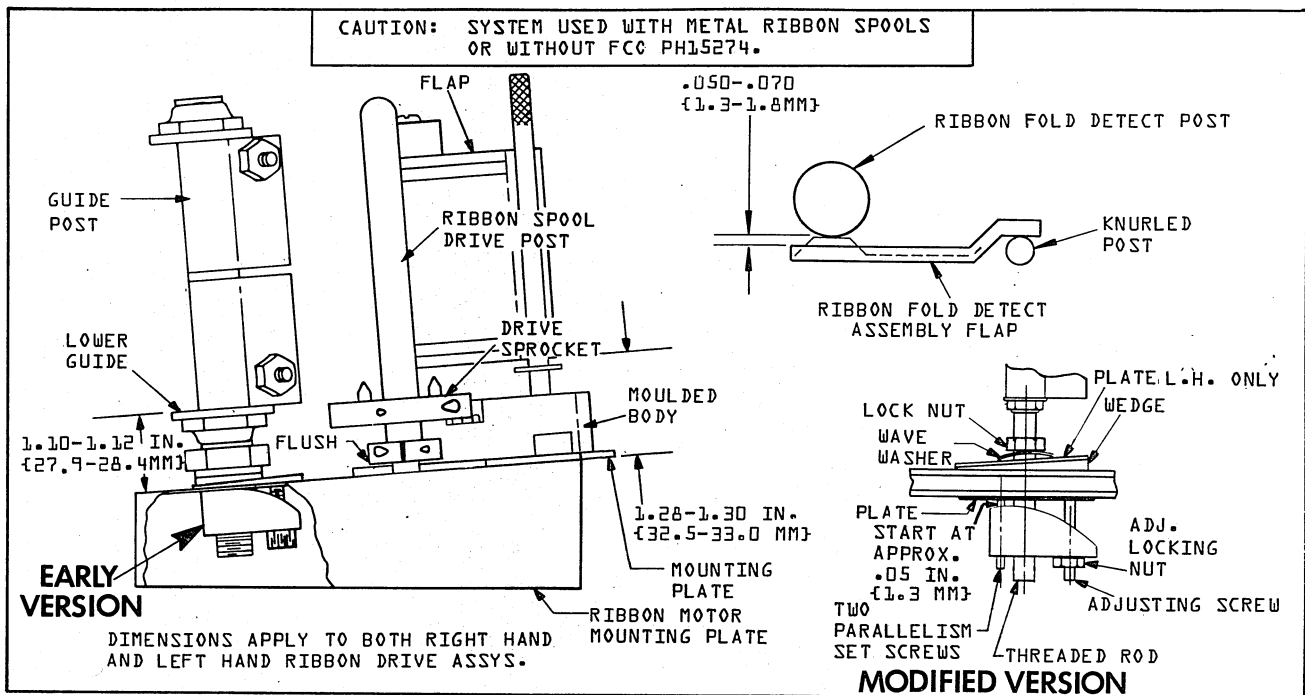

FIGURE 5-25. RIBBON SYSTEM SET-UP
3. This check and adjustment is very important. Visually check that the two ribbon guides appear parallel to the ribbon spool drive posts. Established this parallelism by bending the guide posts on the early version cams. The new version cams (see Figure 5-25) have two small set screws to adjust parallelism. When adjusting the set screws be sure to keep the lock nut above the wave washer tight. It is important that these surface be parallel. Two long rulers against these surfaces will aid in this alignment. The following ribbon contact surfaces and spool posts should all be vertically parallel: ribbon guide plate, ribbon guides, and ribbon switching posts. The ribbon fold detect assembly is not adjustable vertically.
6. Using a ruler check that the bottom edge of the ribbon fold detect assembly flap is 1.28 to 1.30 in. (32.5 to 33.0 mm) above the top surface of the ribbon motor mounting plate. See Figure 5-25.
8. Use feeler gauges to check that the gap between the ribbon detect assembly flap and the ribbon fold detect post is .050 to .070 in. (1.3 mm to 1.8mm) with the pivot mechanism in the locked closed position. To adjust, remove the assembly from the printer. Remove the moulded body from the mounting plate. Loosen the screw at the bottom of the knurled post. Insert .060 in. (1.52 mm) feeler gauge between flap and fold detect post. Hold the flap against the post with the feeler gauge in between and tighten the screw at the bottom of the knurled post. Re-check and reassembly and mount on the printer (see Figure 5-25).
9. Using a ruler check that the distance from the top surface of the lower guide (located on the ribbon switch post) to the mounting plate is 1.10 to 1.12in. (27.9 to 28.4mm) See Figure 5-25.
19. If the ribbon is not properly tracking adjust the angle of the switch post at the take up spool as follows: (The new cams required a locking nut to be loosened see Figure 5-25).